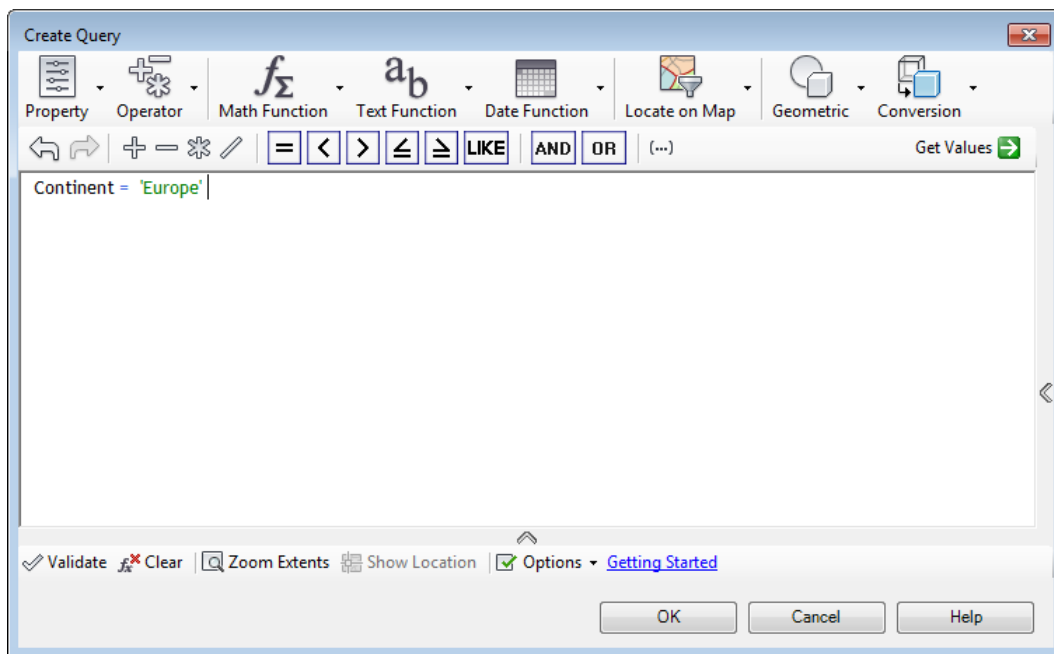

Figure 2-29 The Create Query window displaying the query
13. Enter **Continent = 'Europe'** in the edit window, as shown in the Figure 2-29, and choose the **OK** button in the **Create Query** window; the query is executed and the filtered map objects are added to the drawing window. Next, close the **Data Connect** wizard.